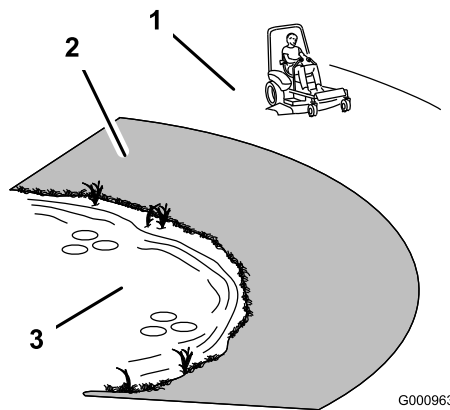

Figure 3
- Use a walk behind mower and/or a hand trimmer near drop-offs, ditches, steep banks or water. (Figure 3).